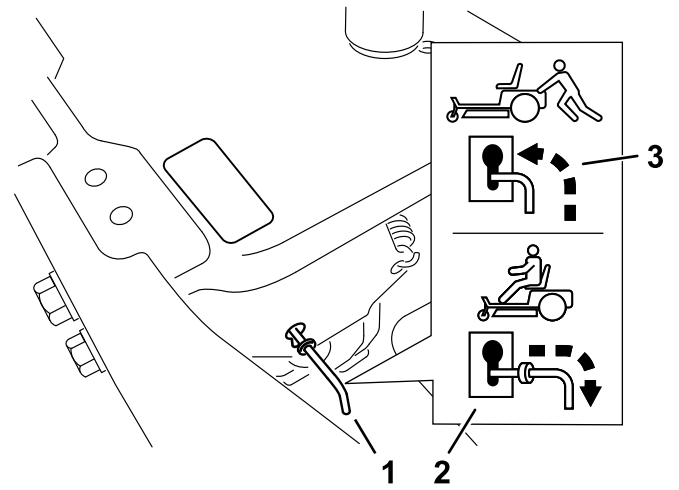

Figure 29
4. Move the bypass levers forward through the key hole and down to lock them in place (Figure 29).
Move the bypass levers rearward through the keyhole and down to lock them in place as shown in Figure 29.